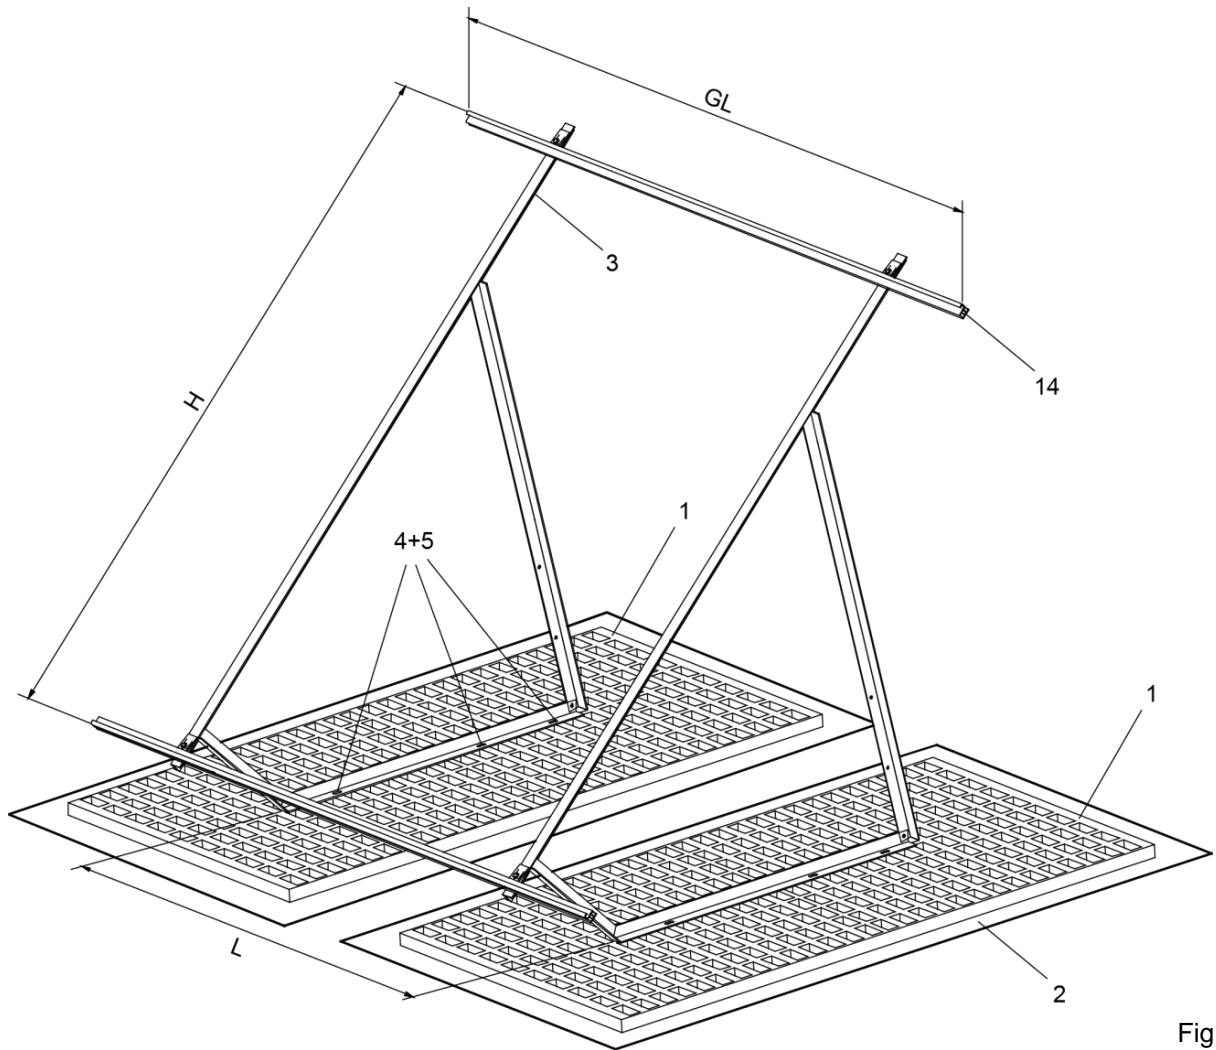

Fig. 1
- Determine the position of each single base boards (1) on the roof – considering the given values in the table below (see Fig. 1). Remove the gravel ballasting completely in this area without damaging the roof cladding.
- Place the protective mat (2) below the base boards (1). The base boards have to be adjusted correctly using the three threaded sockets M10 (4 + 5) as illustrated in Fig. 1.